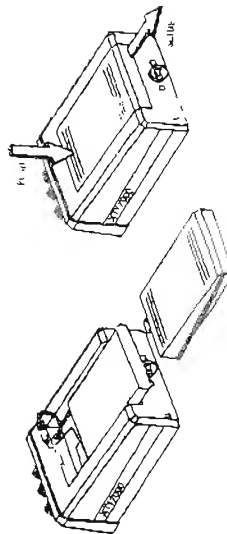

Figure 4. Battery removal and installation.
2. To access the battery compartment slide the battery lid from the detector by pushing down on the front of the lid and sliding the lid out to the rear of the control box as shown in the figure 4.